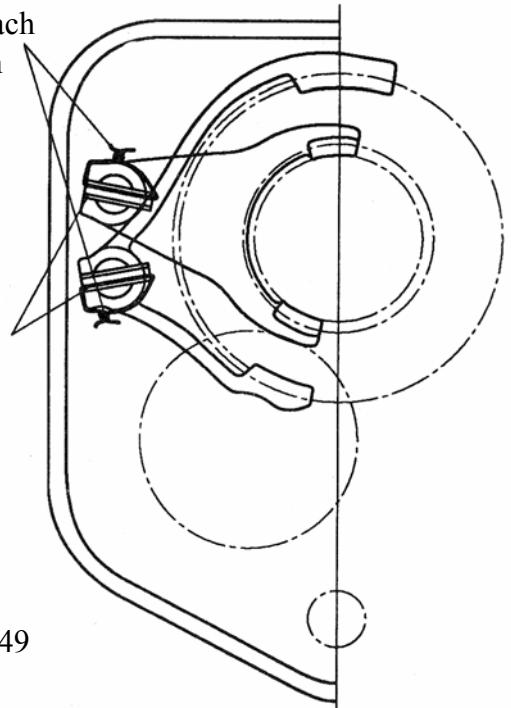

Fig. 5-49
- Install spring (roll) pins so that their seams are positioned as illustrated in Fig. 5-49
**(2) Reassembly of sub-change gears